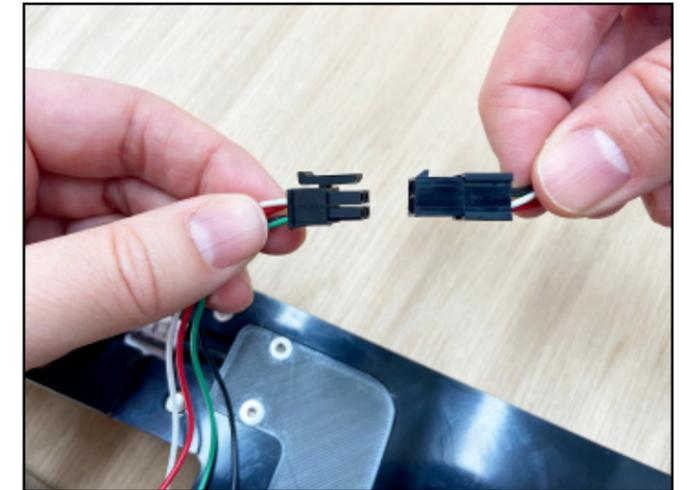

Figure 3-3
2. Connect the 4-pin power and the 3-pin BitSetter leads to the corresponding extension cables exiting the front of the rail. See **Figs. 3-3 and 3-4**.
NOTE: Connectors are polarized and will only connect one way. Do not force a connection. See **Fig. 3-3**.